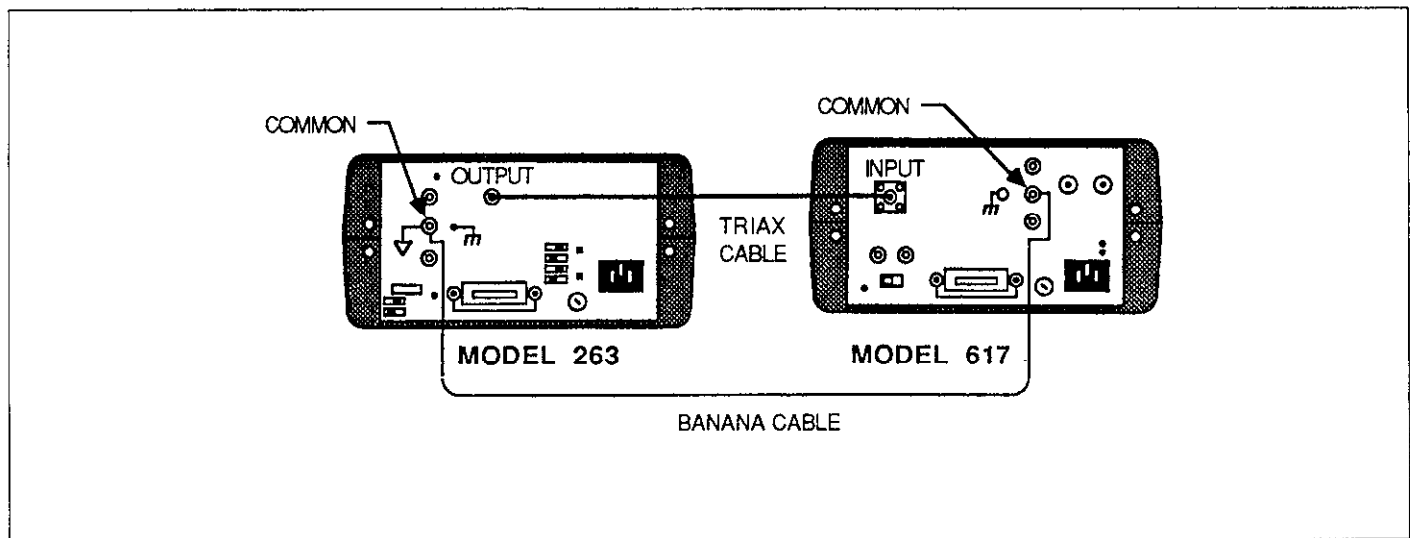

Figure 3. Ohms Verification Setup
Connect the Model 617 to the Model 263 as shown in Figure 3 and perform ohms verification as follows:
11. For the remaining Model 617 ranges, repeat steps 6 through 9 by sourcing the appropriate resistances to the electrometer. Note that guard must be enabled on both the Models 617 and 263 when verifying the G Ω ranges. Also, note that COM of the Model 617 must be connected to COMMON of the Model 263 (see Figure 3).